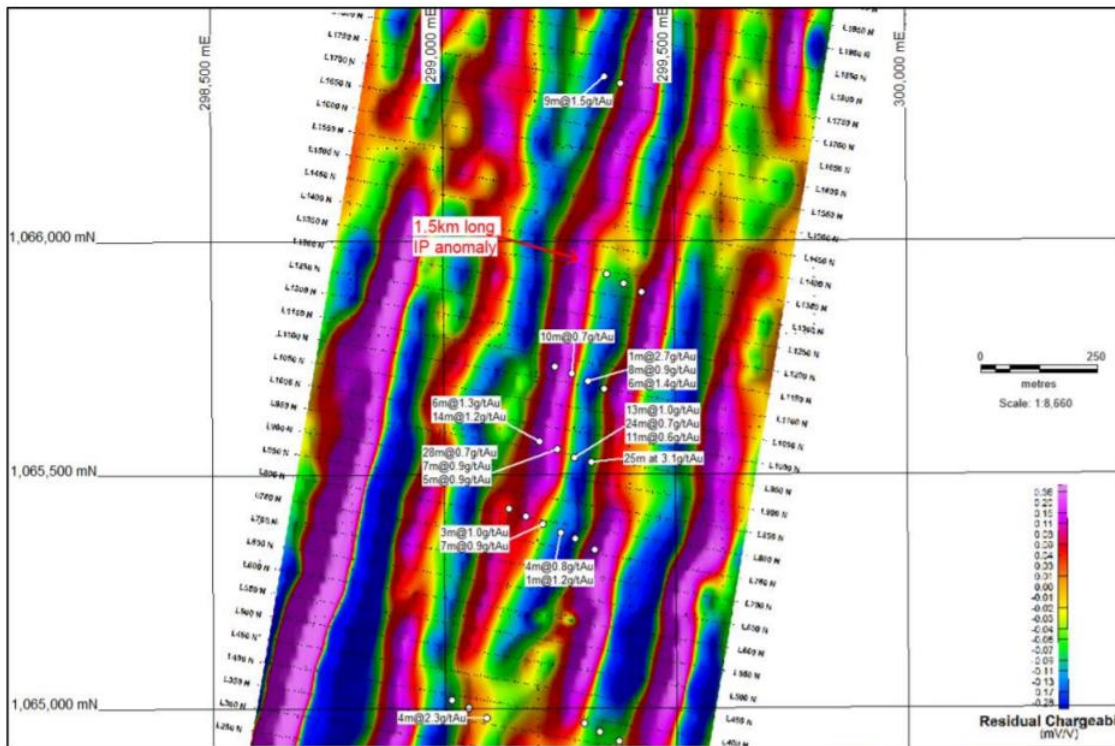

Figure 3 - Southern Gold Prospect, Ferkessedougou North, showing previous drill results and IP (chargeability) anomalies.
A recently completed gradient array Induced Polarisation (IP) survey (Figure 3) over the southern gold mineralised zone (Figure 3) demonstrated a spatial correlation between mineralisation identified in previous drilling and a 1.5km long IP (chargeability) anomaly.